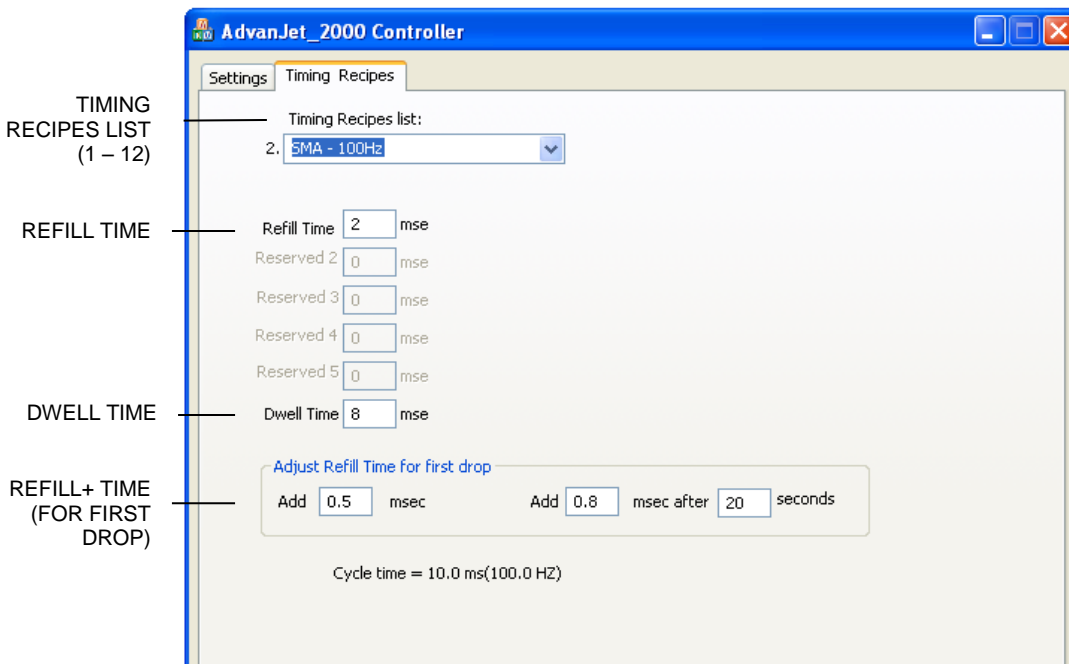

Figure 6-1: Timing Recipes Main Menu
Before dispensing can begin, Timing Recipes must be created for the particular fluids being dispensed. Figure 6-1 on the next page shows the Timing Recipes Menu of the Advanjet software. Once configured, the Timing Recipes can be downloaded into the Advanjet controller. After the recipes are downloaded, the controller can be triggered remotely through digital inputs from the host controller without the Advanjet software program running in the background.
The Advanjet software offers several sample Timing Recipes for popular fluids for a quick start-up. As shown in Figure 6-1 above, the Timing Recipes main menu screen lists the dispensing parameters on the HV-2000C controller front panel.
- **Add xxx msec:** is a time value that is added to Refill Time. Referring back to Figure 6-1, 2.0 msec (original Refill Time) + additional 0.5 msec = 2.5 msec Total Refill Time. In DROP mode, this value is added to every drop (described in Section 6.3). However, in LINE mode this value is added only to the very first drop (described in Section 6.4).
- **Add XX msec after YY seconds:** is a time value added to the Refill Time after the jet is idled for a defined number of seconds. This additional time is added only to the first drop in both Drop and Line Mode. Referring again to Figure 6-1, the Refill Time for the first drop after 20 seconds at idle would be 2 msec (original Refill Time) + additional 0.8 msec = 2.8 msec Total Refill Time. This applies to only the first drop.